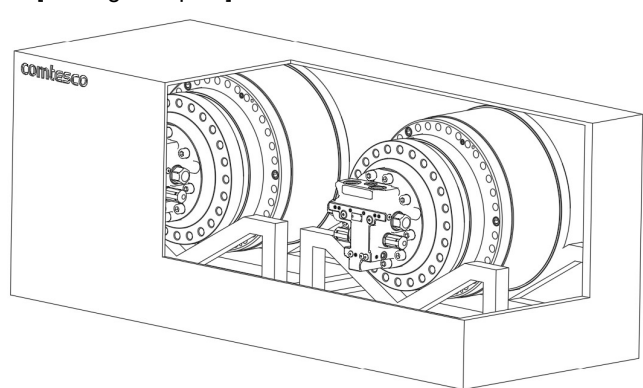

Fig. 3-1
- The illustrations (Fig.3-1) in this manual do not necessarily represent the individual packaging or the product. They change by the individual product or the confirmation notice. Also, for convenience, the drawings are cut out of the packaging material so that the contents can be imaged.